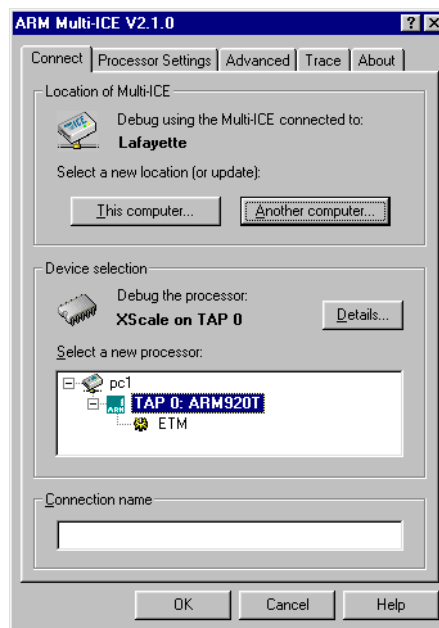

Figure B-21 Multi-ICE configuration dialog box
4. With Multi-ICE selected, click **Configure** to display the ARM Multi-ICE 2.0.1 configuration dialog box (Figure B-21 on page B-30).